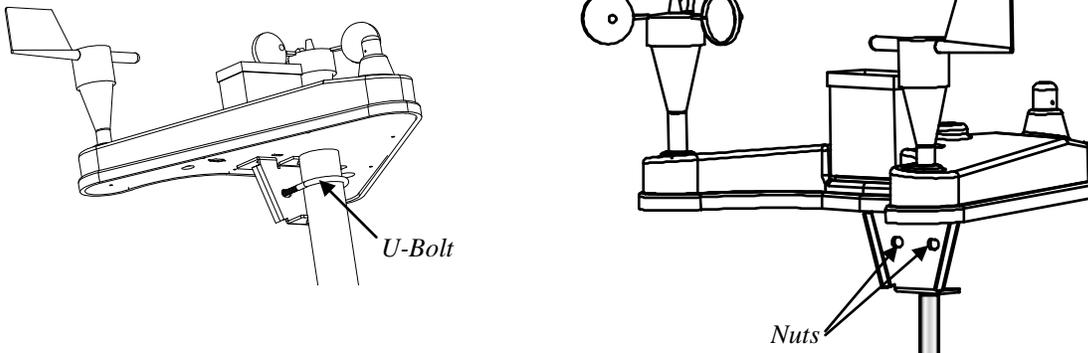

Figure 13: Two views of the WeatherHawk station. The U-bolt and nuts are shown.
2. Loosely tighten the U-bolt nuts so that the WeatherHawk is stable but can be rotated on the mast or pole (Figure 13).